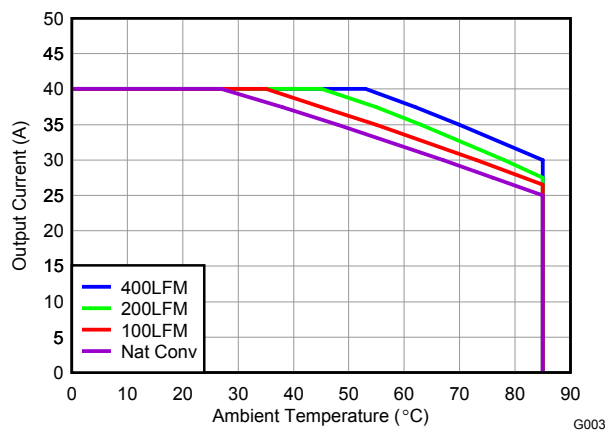
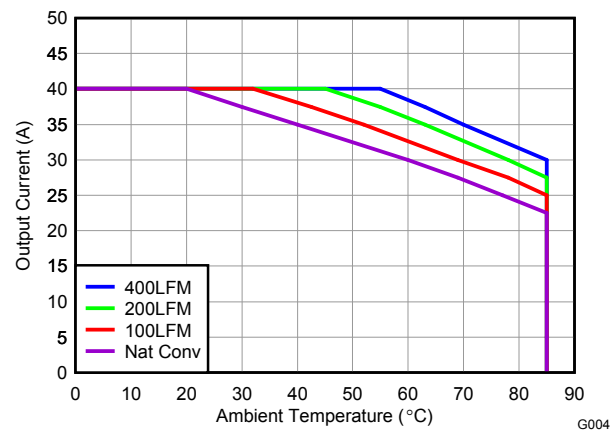
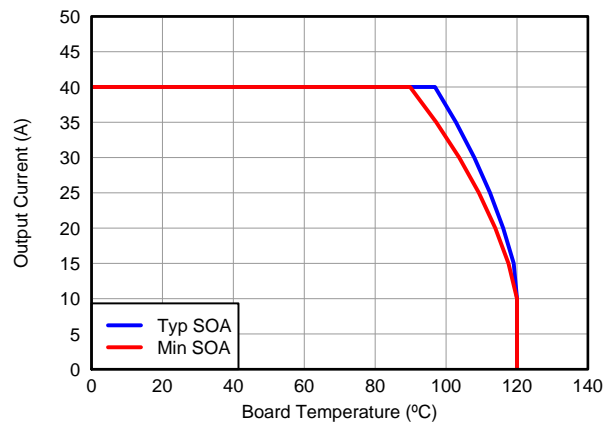

Figure 9. Safe Operating Area – PCB Vertical Mount ⁽¹⁾
Figure 10. Safe Operating Area – PCB Horizontal Mount ⁽¹⁾
Figure 11. Typical and Min Safe Operating Area ⁽¹⁾
The SOA curves in the CSD97370AQ5M datasheet give engineers guidance on the temperature boundaries within an operating system by incorporating the thermal resistance and system power loss. Figure 9, Figure 10, and Figure 11 outline the temperature and airflow conditions required for a given load current. The area under the curve dictates the safe operating area. All the curves are based on measurements made on a PCB design with dimensions of 4.0" (W) x 3.5" (L) x 0.062" (T) and 6 copper layers of 1 oz. copper thickness.